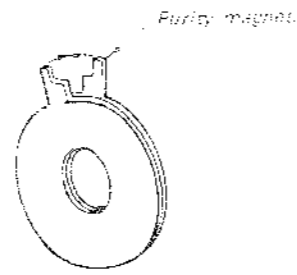
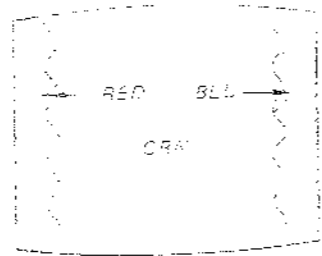

Fig. 3-1.
Fig. 3-2.
3. Adjust purity magnet tabs as shown in Fig. 3-1.
5. Adjust red (R) and blue (B) on the C board.
6. Adjust purity magnet tabs to center vertical green trace as shown in Fig. 3-2.
8. Check red and blue raster for uniformity by putting on the color bar a step 4, 5 and 6. To get a uniform red screen, adjust red (R) and blue (B) on the C board. To get a uniform blue screen, adjust red (R) and blue (B) on the C board.
9. After these checks, corner the leads (C), (R) and (B).